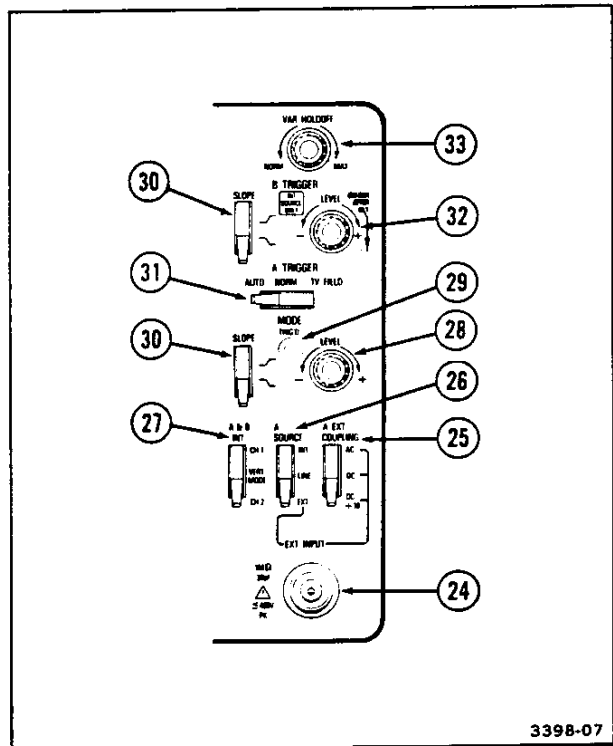

Figure 6. Trigger controls, connector, and indicator.
Refer to Figure 6 for locations of items 24 through 33.